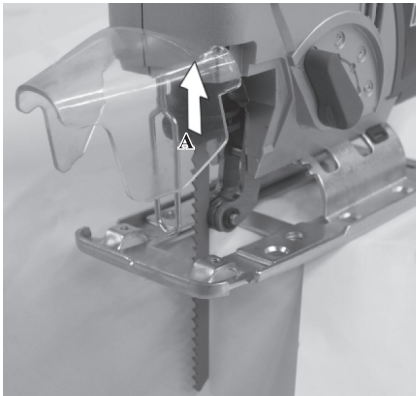

Fig. 2
6.2 Assembling saw blade (Fig. 2)
- Push the saw buckle clamp (Fig.2, A) up and hold